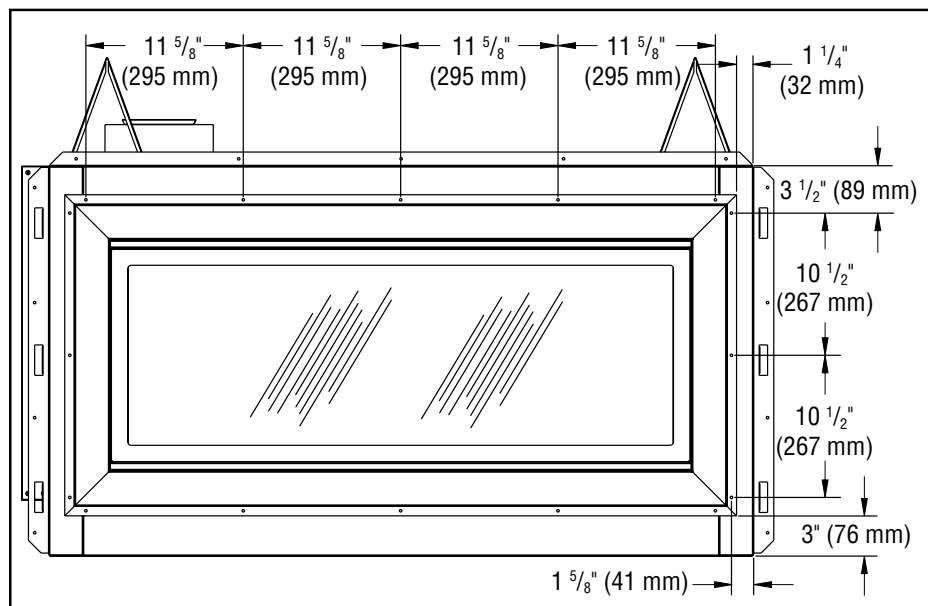

Figure 44 - Installing Exterior Door for See-Thru In/Out Application
1. Center and level exterior door on rear face of the see-thru fireplace. Exact dimensions for the location of the door are shown in **Figure 44**.